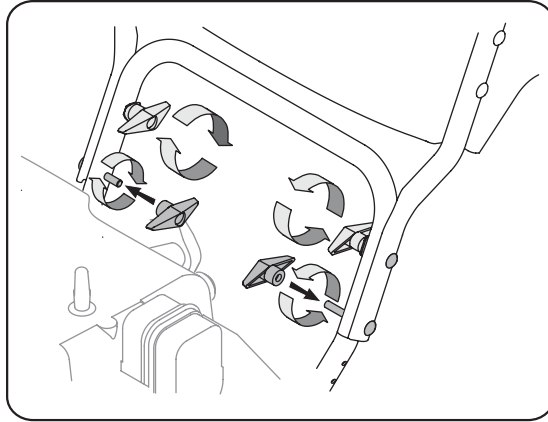

Figure 3-1
- Remove the lower handle knobs and carriage bolts from each side of the upper handle. See Figure 3-1.
- Raise the upper handle assembly until it locks over the lower handle. See Figure 3-1.